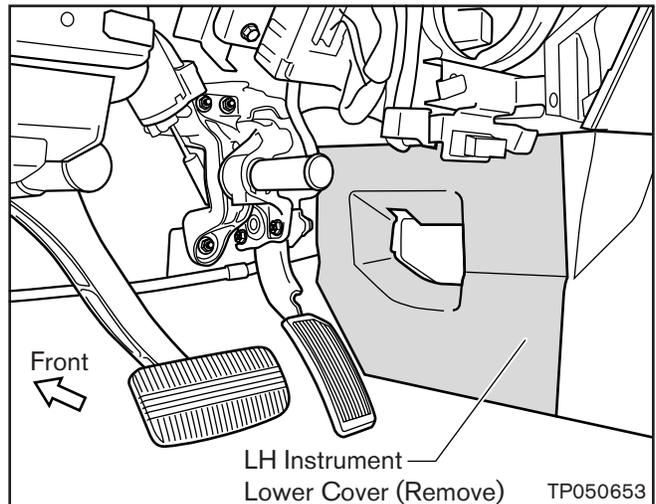

Figure 5
5. Remove the LH Instrument Lower Cover next to the Accelerator Pedal (see Figure 5).